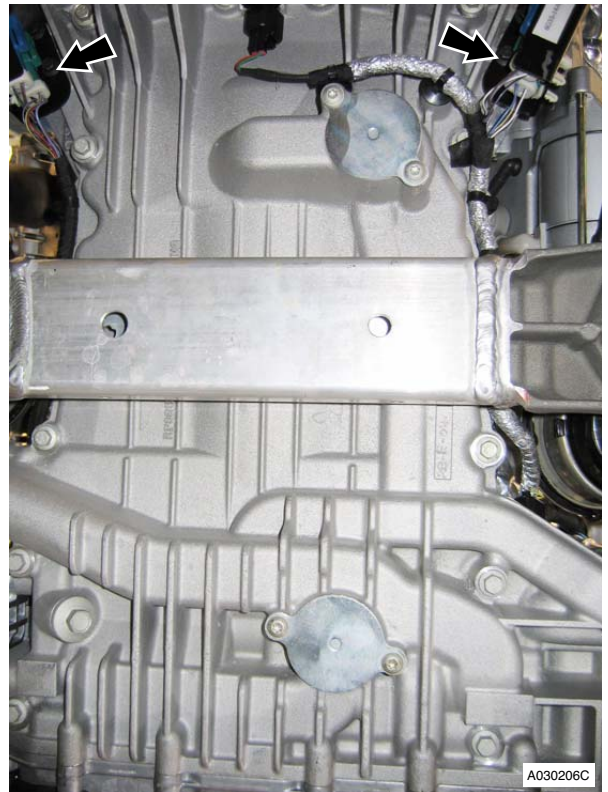

Figure 10
17. Remove bolts (x4) securing LH and RH HEGO sensor multiplug brackets to sump (see Figure 10).